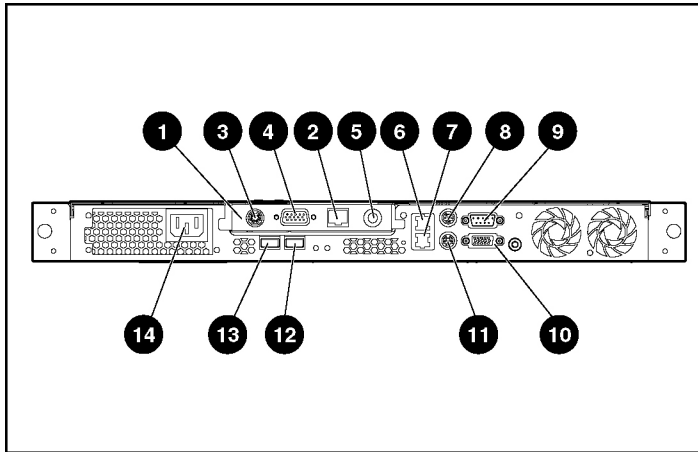

Figure 4-8: Rear panel connectors on the server
1. Locate the external connectors on the rear panel of the server in the expansion bay. Refer to Figure 4-8 and Table 4-1.